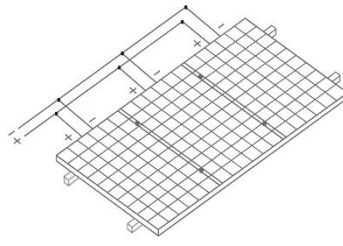

Figure 9 Connection in parallel
- When connected in parallel, the output current of the whole string of modules is equal to the sum of the current of each branch module or module string (the parallel connection mode is shown in Figure 9). Each string of modules shall be equipped with a fuse. The reference formula for the maximum number of modules in parallel connection: maximum protective current / (1.25 × short-circuit current). Please refer to the national or regional or local specifications for details.